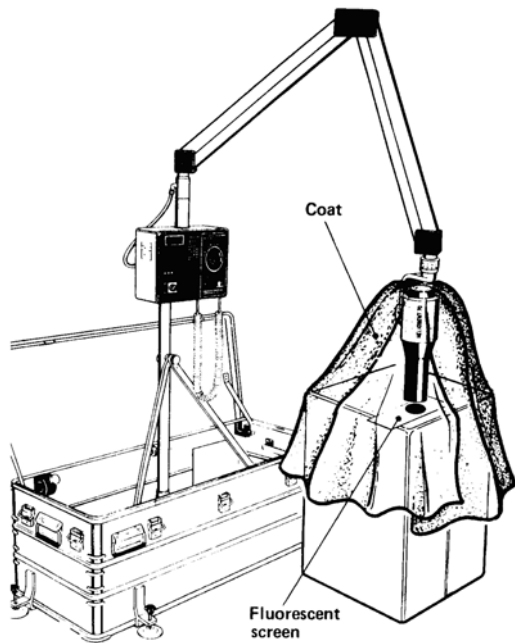

Figure 3-16. No X-rays emitted from tube head.
- (1) To verify that the X-ray head is defective, use a fluorescent screen.
- (a) Place the fluorescent screen on a table or counter top as shown in figure 3-16.